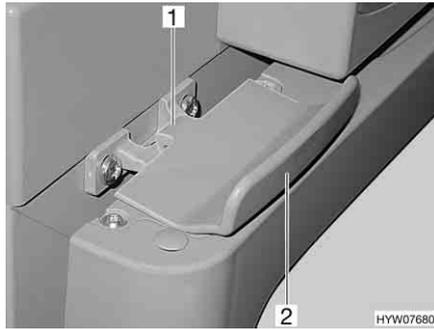

Fig. 173 Lock of refrigerator door, closed (Thetford)
- Open the refrigerator door at the handle (Fig. 173,2). The lock (Fig. 173,1) is released automatically.